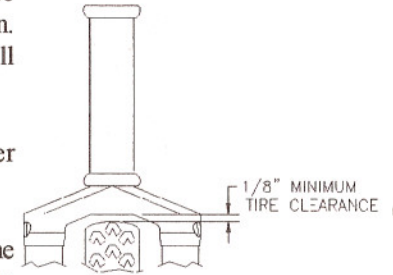

fig. 9
a.) Check that there is at least 1/8" clearance between the tire and the bottom of the crown. If there is not enough clearance, you will have to use a smaller tire. (Fig. 9)